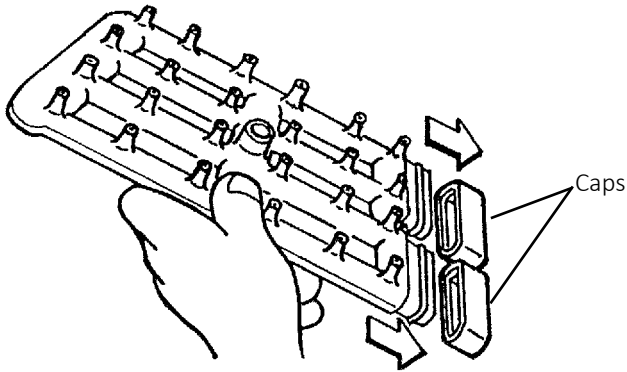

Fig. 33
8. Remove the two caps. See Fig. 33.